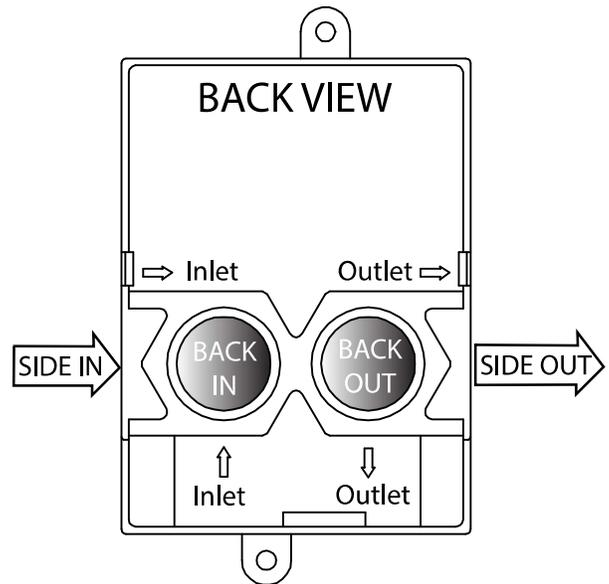
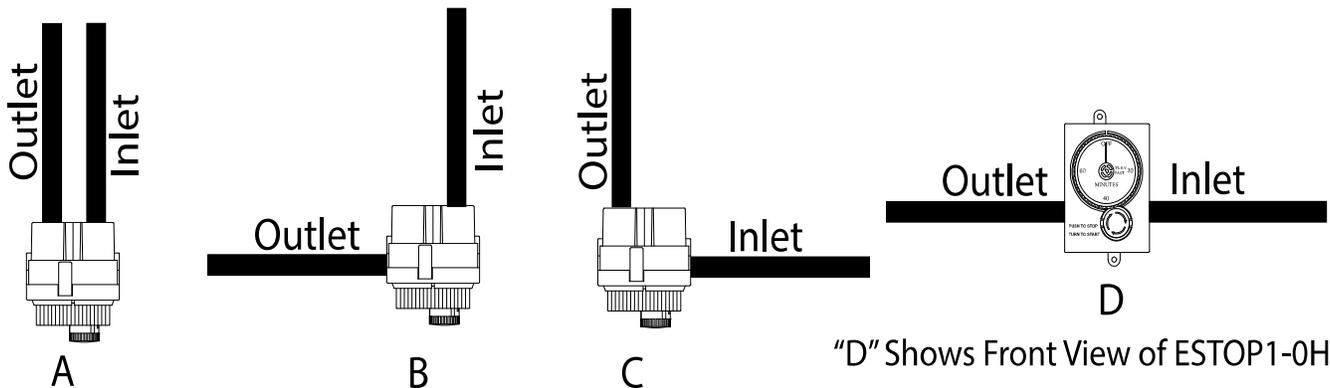
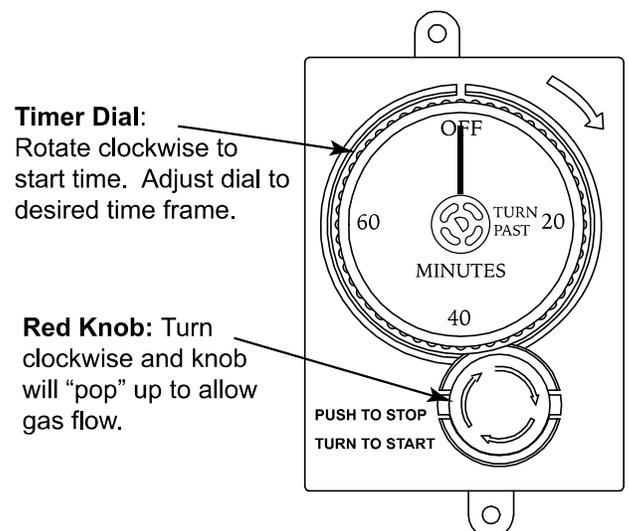
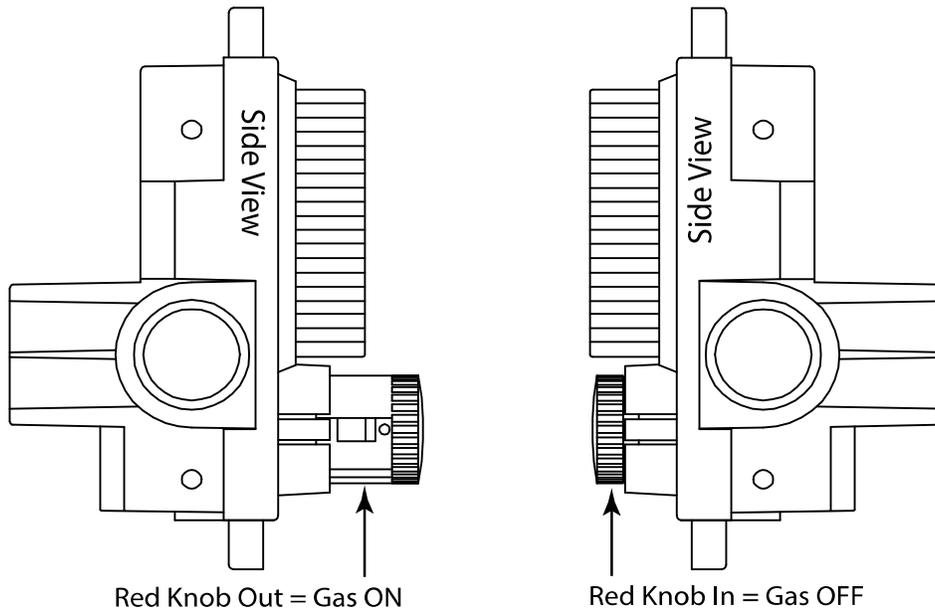

Fig. 2 Inlet and outlet connections.
Fig. 3 Plumbing options
Fig. 4 ESTOP1-0H operation.
Fig. 5 ESTOP1-0H Gas Timer red knob positions
The ESTOP1-0H is designed to be installed in an up-right position as shown in Fig 3, view "D" or Fig. 4. It has two (2) inlet and two (2) outlet gas connections. The diagrams below provide possible ways to plumb the timer (See Fig. 3). Two (2) ½" NPT plugs are provided with the timer. Plug the inlet and outlet connections not being used for the application. Connect gas supply to the inlet with the arrow \Rightarrow pointing into the valve. Connect outlet side to the gas appliance (See Figs. 2 & 3 for details).
TO TURN OFF: Let timer expire or simply press red knob inward until it stops. The red knob will lock down with a "click" and stop gas flow. See Fig. 4 and Fig. 5 on following page.